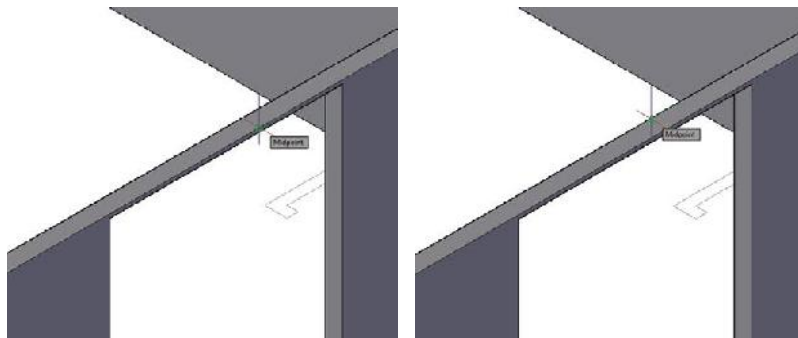

FIGURE 16.77: Selecting the first Slice point (left) and selecting the second Slice point (right)
5. At the Specify start point of slicing plane or: prompt, use the Midpoint osnap to pick the midpoint of the top of the front wall, as shown in the left image of Figure 16.77.
6. At the Specify second point on plane: prompt, pick the midpoint of the top of the back wall, as shown in the right image of Figure 16.77.